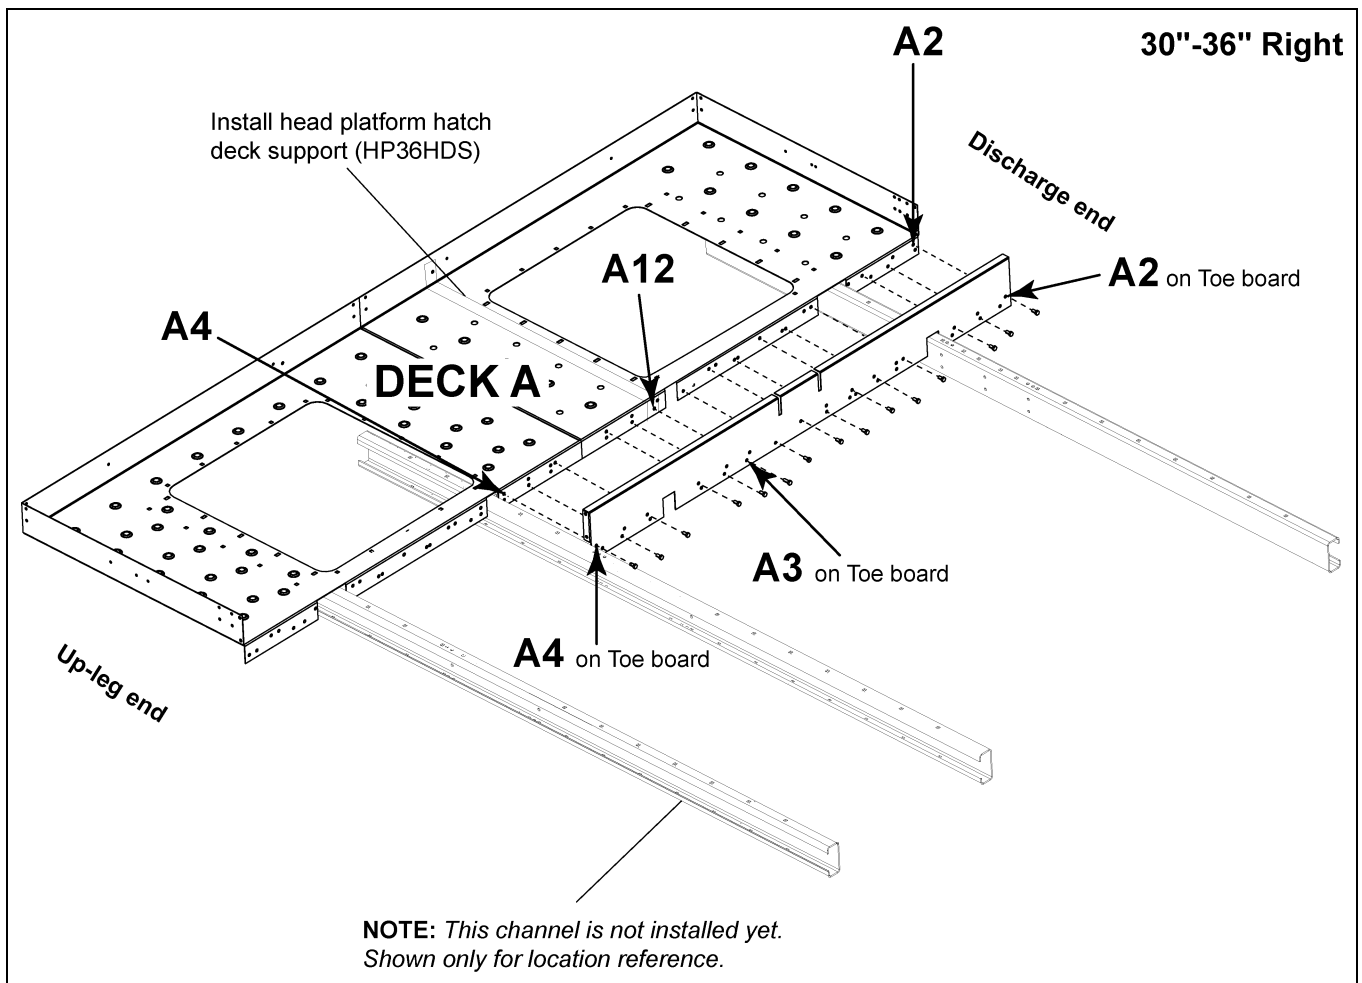

Figure 8I
- e. For both 30" and 36" - Deck hole **A2** to toe board hole **A2**. (See Figure 8I on Page 57.)
NOTE: At this time, the head platform hatch deck support (HP36HDS) should be installed **UNDER** Deck A. Line this up with hole **A12** on the deck flange near hatch opening and install at the same time attaching deck to toe board. (See Figure 8I on Page 57.)
- b. Deck hole **A4** to toe board hole **A4**. (See Figure 8I on Page 57.)